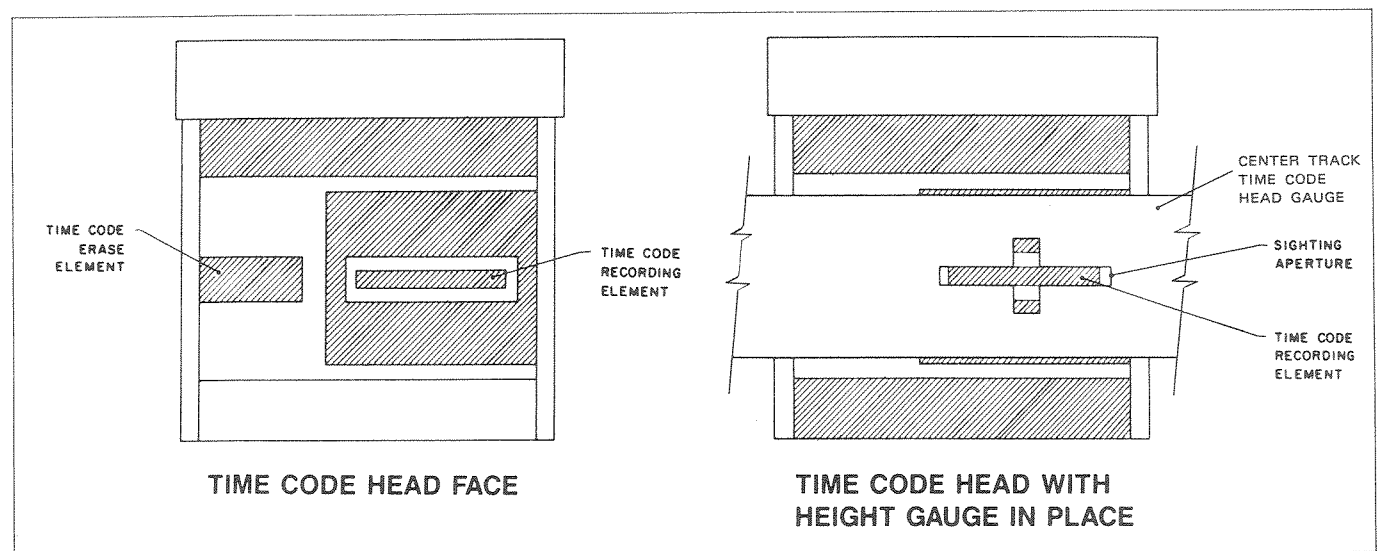

Figure 4-1. Time Code Head Height
- STEP 4** Verify that the Time Code recording element is centered exactly along the lateral slot in the sighting aperture, as illustrated in Figure 4-1. If this condition is met, go to STEP 5. Otherwise, go to STEP 6.